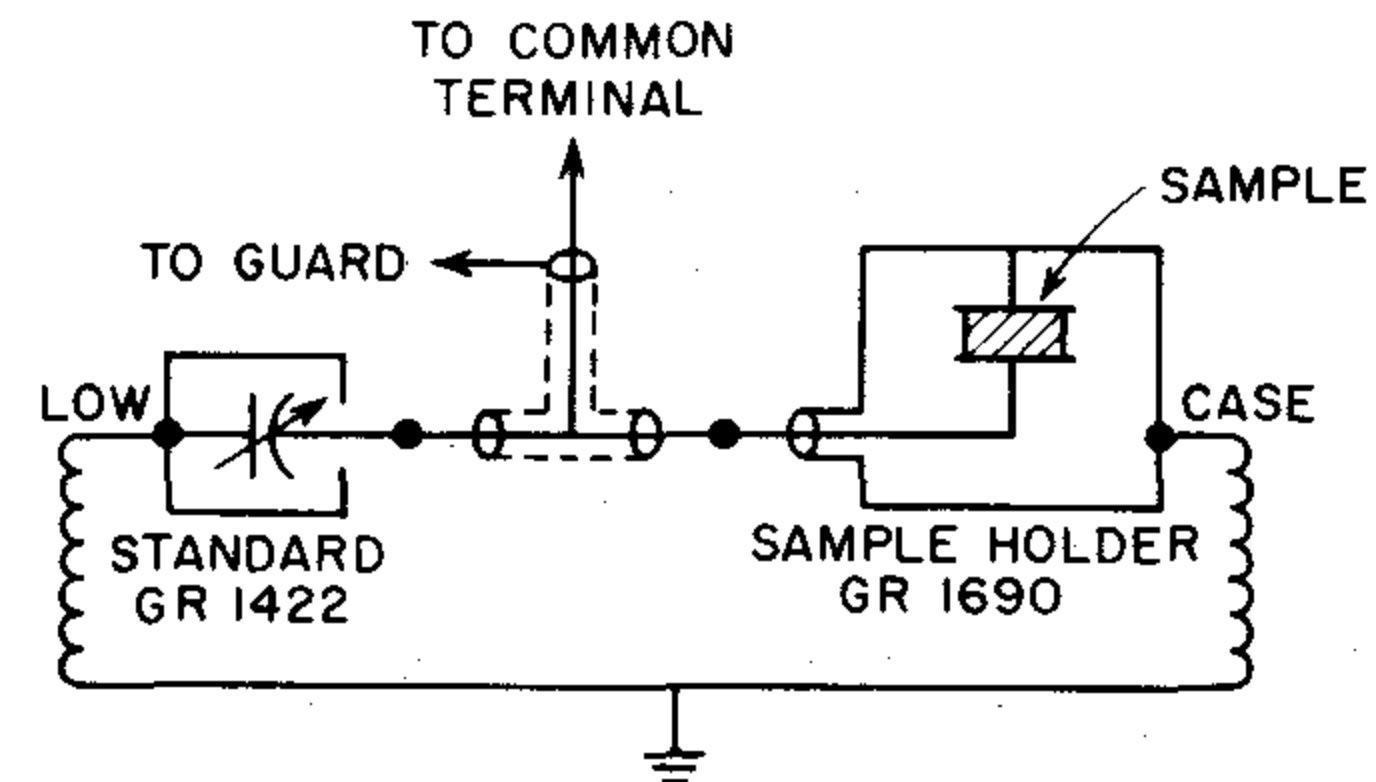

Figure 4-12. Measurement of dielectric samples using the 1690 Dielectric Sample Holder.
For precise measurement of both of these quantities on solid dielectric samples, the GR 1690 Dielectric Sample Holder is recommended. D measurements are possible without such a holder, simply make a capacitor out of the sample by applying aluminum foil to each side and compare it with a standard capacitor to determine the value of D. However, for precise D values, stray losses and stray capacitances must be controlled; a difficult task without a precision sample holder. A recommended setup for both K and D measurements is shown in Figure 4.12.
- Set up the equipment as shown in Figure 4.12. Use the GUARDED position.